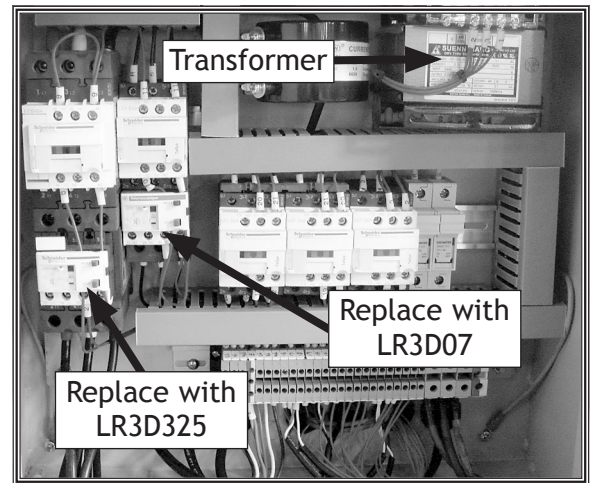

Figure 6. Locations of thermal overload relays and transformer.
4. Replace thermal overload relays, as shown in Figure 6.